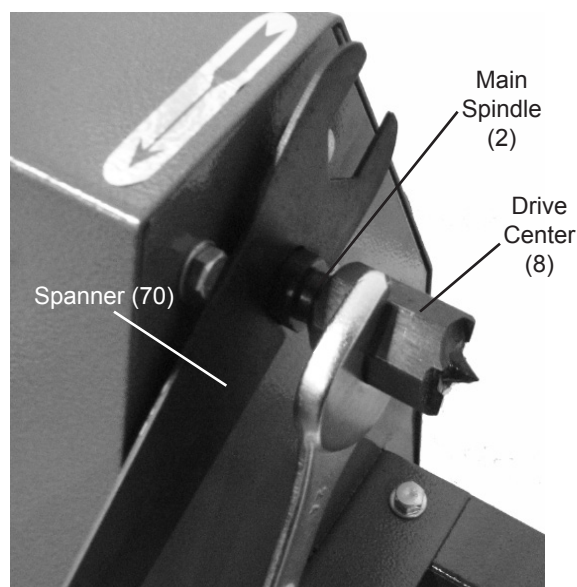

Figure 1
**Turn the Power Switch (14) of the Lathe to its "OFF" position and unplug the tool from its electrical outlet before assembling or making any adjustments.**
1. To attach the Faceplate (9) to the Main Spindle (2), loosen the Drive Center (8) and remove it from the Spindle. Do this by using the Spanner (70) to hold Main Spindle in place. Then use a wrench (not included) to loosen and remove the Drive Center. See Figure 1, below.